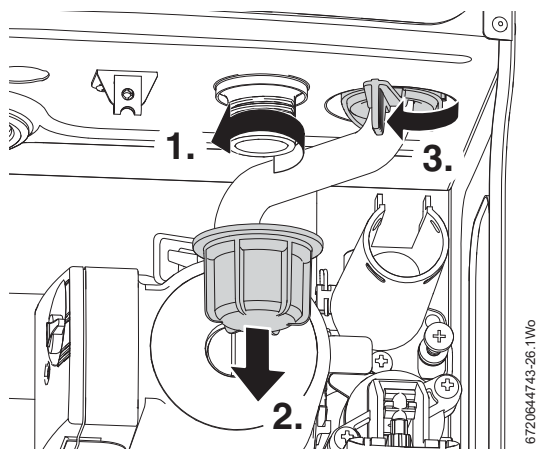

Fig. 108
1. Refer to figure 108 and unscrew the plastic nut.